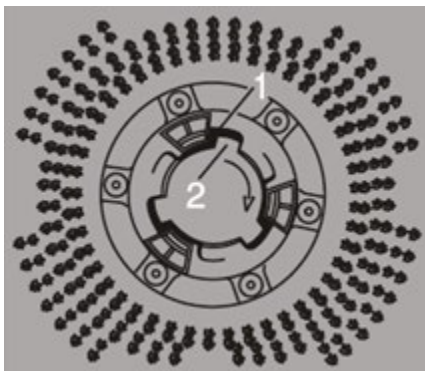

Figure 3
- 4, Align the lugs(1) on the locking plate into the brush pad Opening(2), see Figure 3,